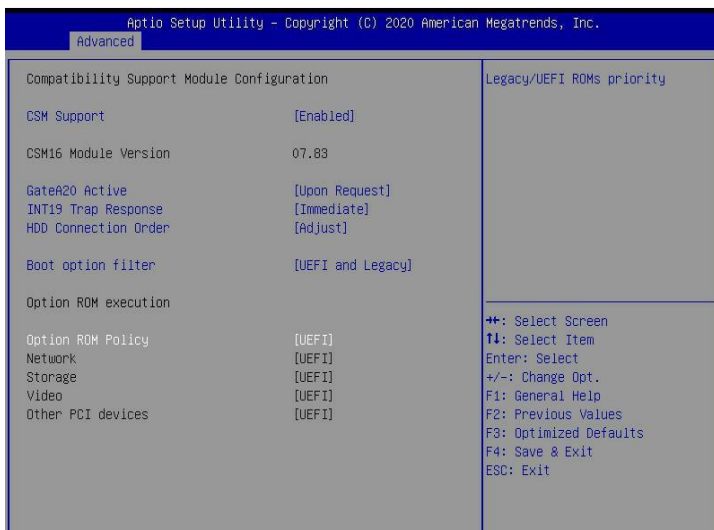

Figure 6-2
- c) Ensure that Storage and video in CSM Configuration are in UEFI mode, as shown in Figure 6-2
✧ Figure 6-2 Set Storage and Video to UEFI mode